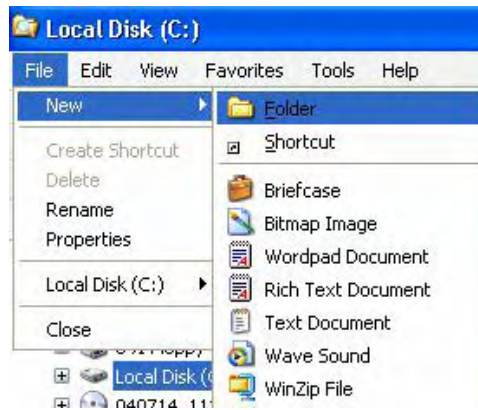

Figure 1-84. New Folder
2. Select **File, New, and Folder** on the Windows Explorer menu bar (Figure 1-84).